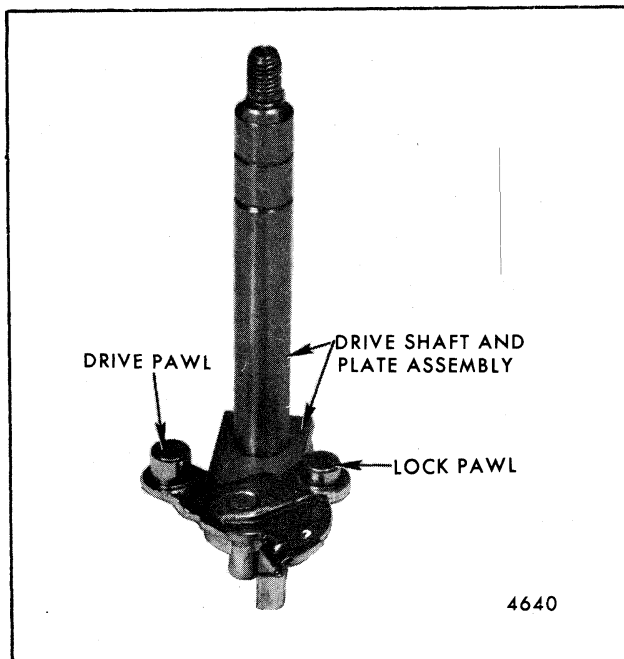

Fig. 2-45-Lock Pawl
2. Assemble lock pawl over drive pawl as shown in Figure 2-45.